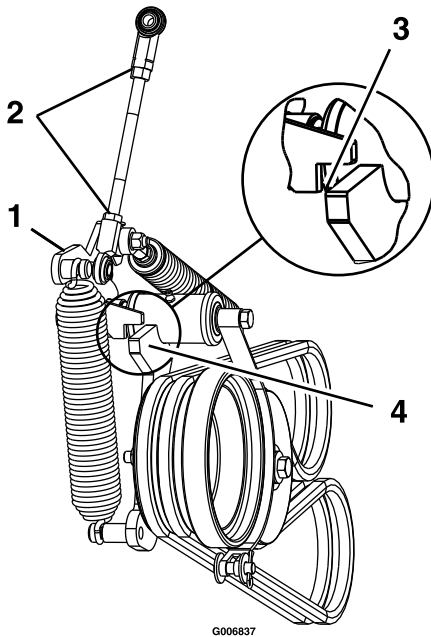

Figure 56
12. Loosen the jam nuts and adjust the linkage until the top of the idler arm is aligned with the bottom of the notch on the tension arm as shown in Figure 56.